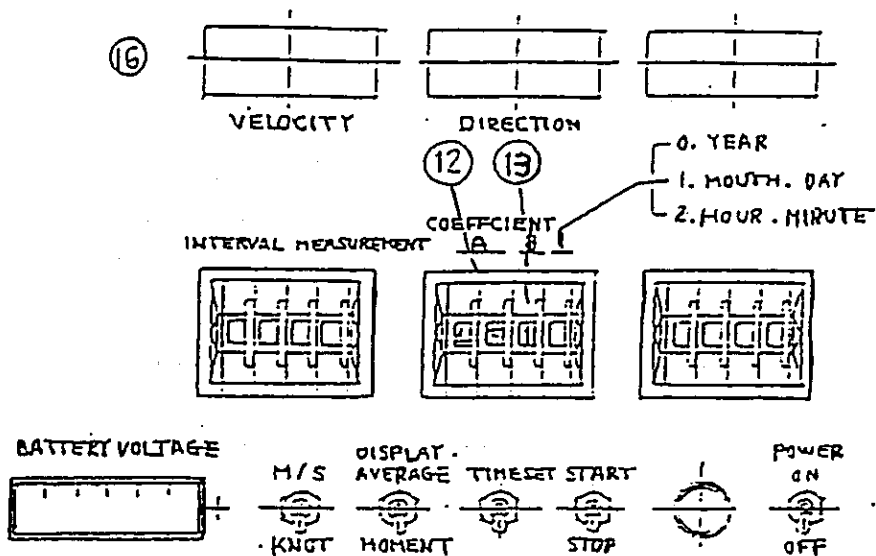

Fig. 7-2 Coefficient setting
Impeller inspection sheet records inspection formula of Eq. 1. Set coefficient (A) and (B) to COEFFICIENT setting switch, (12) and (13) as shown in Fig.7-2.